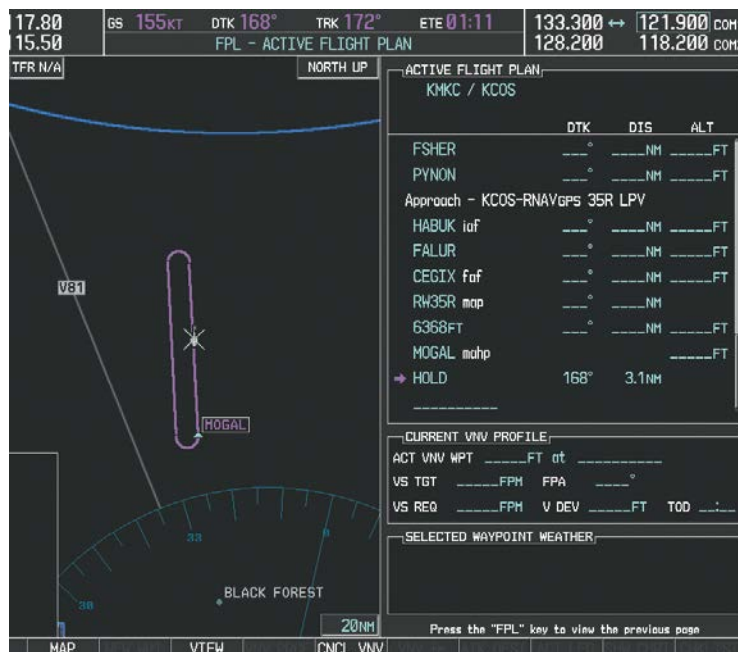

Figure 5-150 Hold Established
- 27) The aircraft maintains 10,000 feet while following the magenta line through the hold as in Figure 5-150.